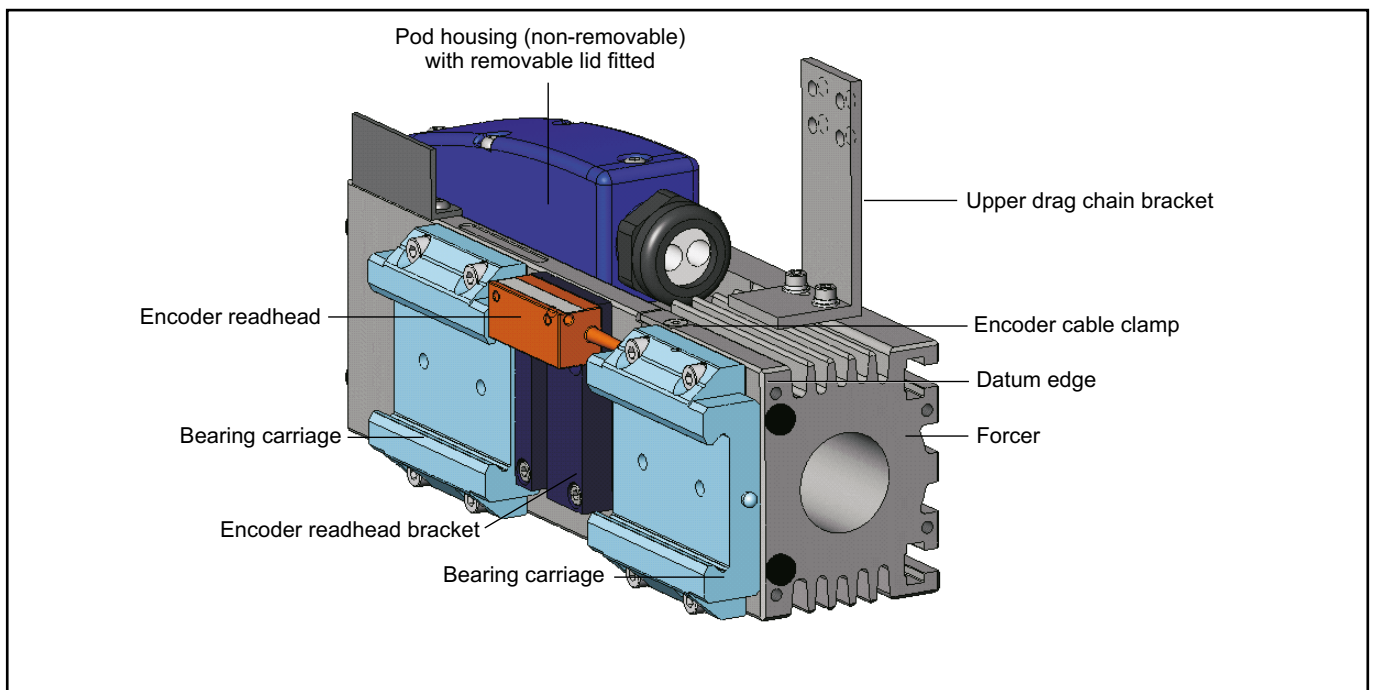

Figure 3.20
- On the underside of the forcer remove the M3 countersunk fixing and clamp holding the encoder cable to the forcer body. Refer to Figure 3.20 for location of the encoder readhead bracket and encoder readhead.